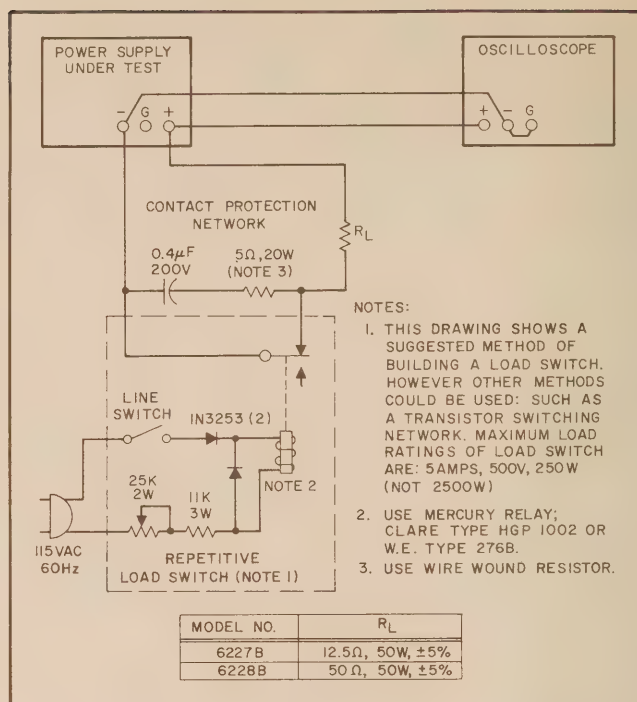

Figure 5-5. Transient Recovery Time Test Setup
5-30 A mercury-wetted relay, as connected in the load switching circuit of Figure 5-5 should be used for loading and unloading the supply. When this load switch is connected to a 60Hz ac input, the mercury-wetted relay will open and close 60 times per second. Adjustment of the 25K control permits adjustment of the duty cycle of the load current switching and reduction in jitter of the oscilloscope display.
- Connect test setup shown in Figure 5-5.